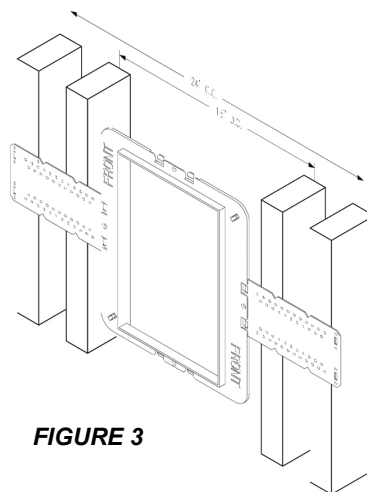

FIGURE 3
**Step 2.** Speaker mounting rings are used in the pre-construction phase of speaker installation during construction of new homes and additions. WG Series mounting rings are designed to provide drywall installers the correct cut-out pattern for the speakers. The rings have wings that are nailed/screwed/stapled onto the studs. See figure 3.